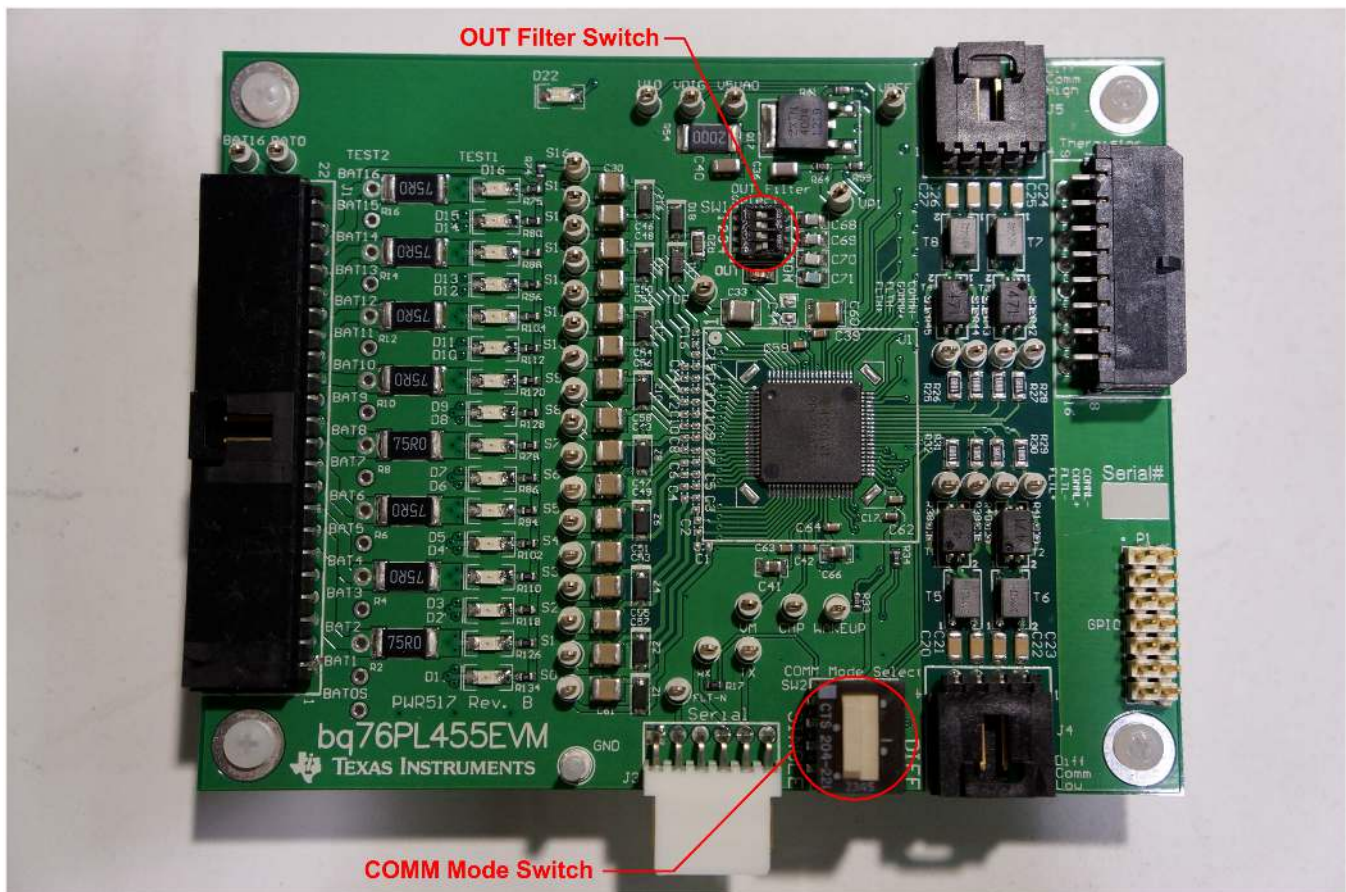

Figure 9. Single bq76PL455EVM Switch Configuration
Figure 9 shows an example of a single bq76PL455EVM configuration.
1. The configuration for a sample period setting of 60.04 μs with 2.7 nF by setting switch 1 on the OUT FILTER switch package to "ON" is shown in Figure 9.
2. On the bottom bq76PL455EVM that is connected to the PC, set the *SW2 - COMM Mode Select* switch as shown in Figure 9. On all other stacked bq76PL455EVMs, set the lever on the *SW2 - COMM Mode Select* switch package in the opposite direction, toward the DIFF label
3. Set *SW1 - OUT Filter Select* switches on all bq76PL455EVMs to the desired setting as outlined in Section 5.1.1 or as shown in Figure 9.